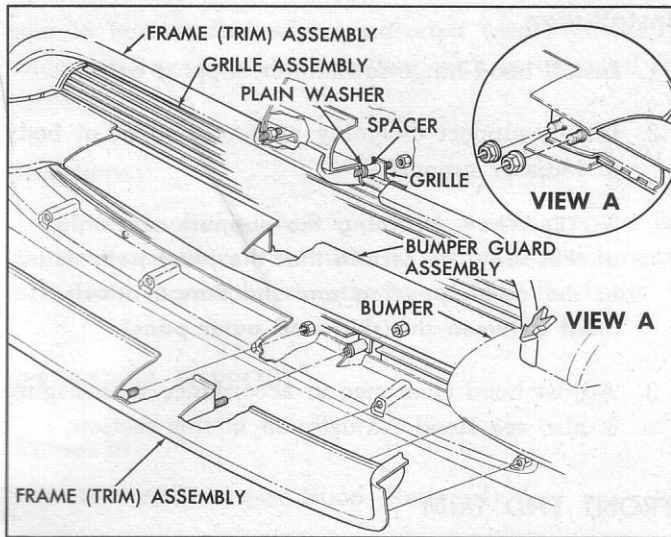

Fig. 13—Grille and Frame (Trim) Assembly Attachment
### Removal (fig. 13)
2. Remove retaining nuts through hood opening. Do not remove plain washers or spacers (fig. 13).
### Installation (fig. 13)